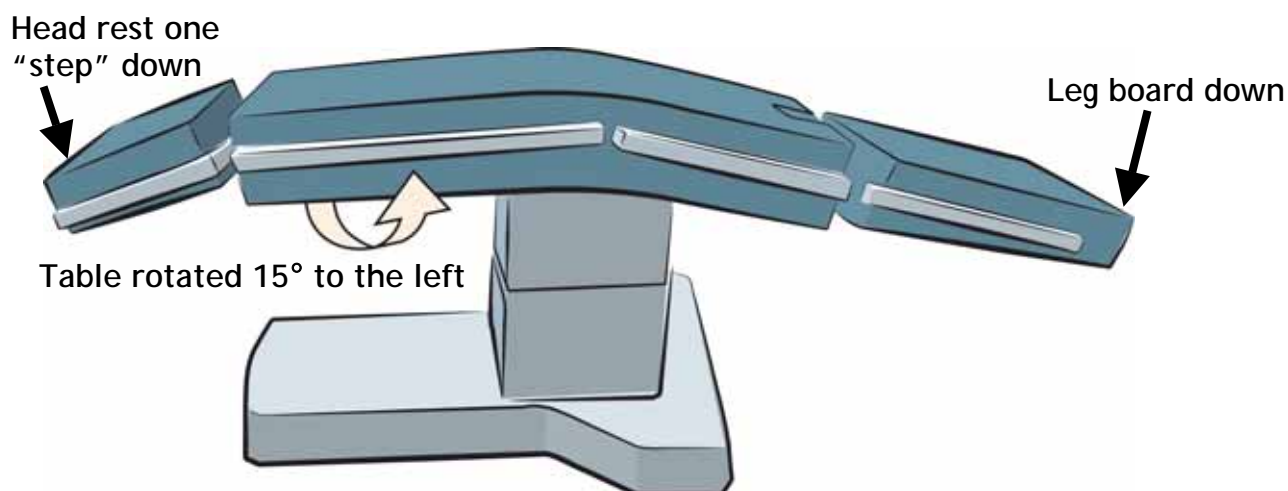

Figure 6: OR table set up for Atrial retractor as second right hand instrument with *da Vinci S*
- OR table set up for *EndoWrist* Atrial Retractor as second right hand instrument (*da Vinci S* only) [Figure 6]: